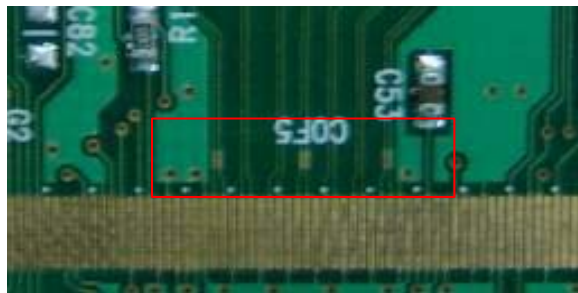

FIG. 3 Measure point
- The above spec will be guaranteed when measure specific point at Fig3.